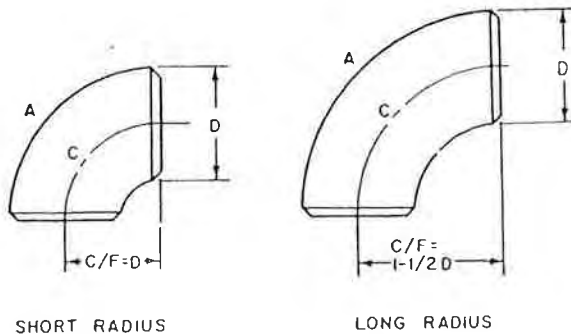

Fig. 6-1. Short- and long-radius elbows.
6.07 Two types of elbow fittings are shown in Fig. 6-1 – long radius and short radius. As you can see from the bottom elbow, the long-radius fitting has the more gradual curve of the two. The important dimension is the center-to-face distance. It is the distance between the center of the fitting (A) and a line (C) drawn down from the face (D) of the fitting at the other end. This is shown in
6.09 As you can see, the elbows shown in Fig. 6-1 provide a 90° turn. 45° elbows are used where the total turn of the pipe is more gradual.